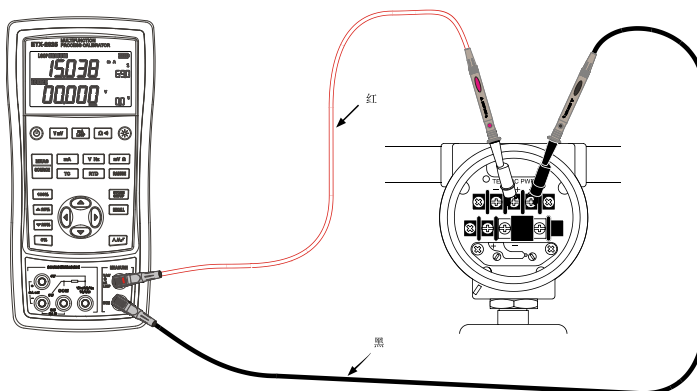

Figure 3.3-1
1. Connect the calibrator to the transmitter current loop terminals as shown in Figure 3.3-1.